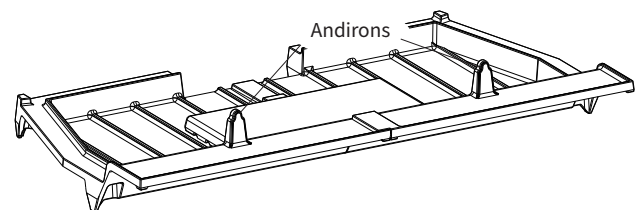

Figure 4.2.
- Load the fuel, usually with smaller logs first. **Keep logs behind the andirons and do load fuel high enough to touch the baffle when loading.** See fig. 4.2.